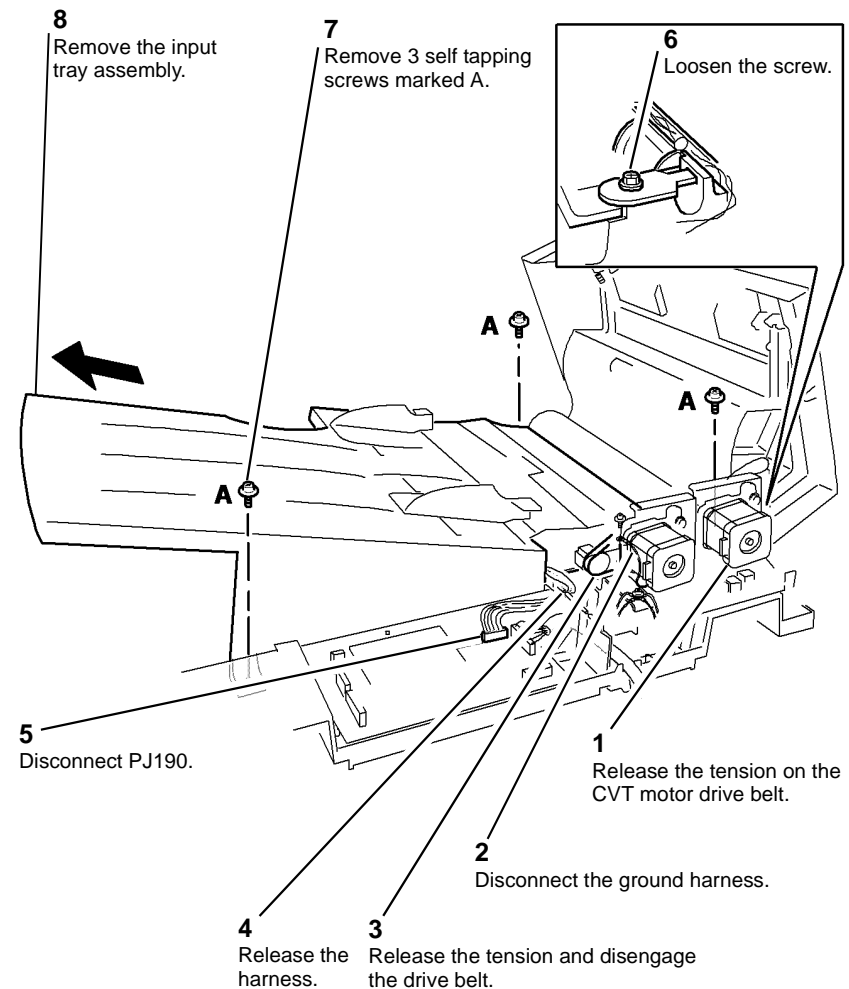

Figure 1 Input tray assembly
3. Remove the input tray assembly, Figure 1.